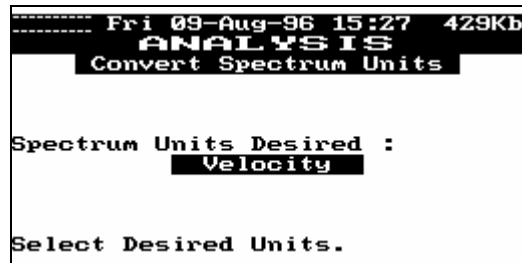

Figure 44
**6--Convert Spectrum Units** This function is for use with vibration spectra only and when selected allows the user to convert the vibration spectrum units of a stored or active data set to Acceleration, Velocity or Displacement, regardless of the units in which the data was collected. First, select the data set you wish to convert using the “Recall Data” function. When the data set has been selected, select the “Convert Spectrum Units” function and press **[ENTER]**. The dark highlight bar will be in place over the Spectrum Units Desired: field and will display one of the three selections as described above. See figure 44. To change the